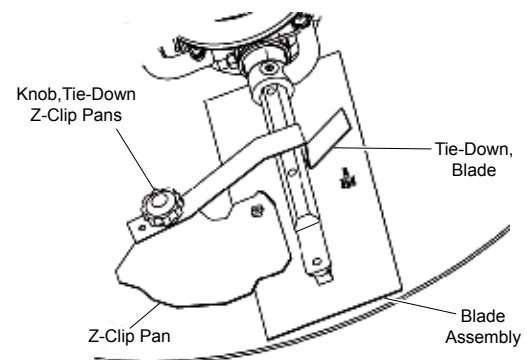

Figure 40. Z-Clip Finisher Pan Instructions
Refer to Figure 40 when installing pans onto finisher blades.
3. Attach the blade tie-downs to the far side of the Z-Clip brackets with tie-down knobs as shown in Figure 40.